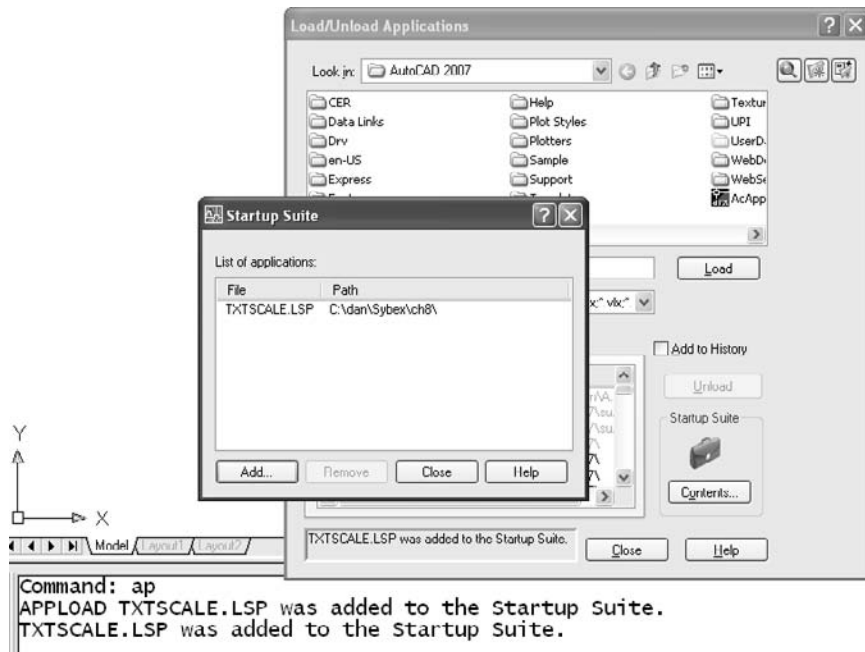

Figure 8.1
Once you've saved an AutoLISP file, you can load it using the APPLOAD (AP) command in AutoCAD. If you want it loaded every time you start AutoCAD, put the file in the Startup Suite of the Load/Unload Applications dialog box shown in Figure 8.1.